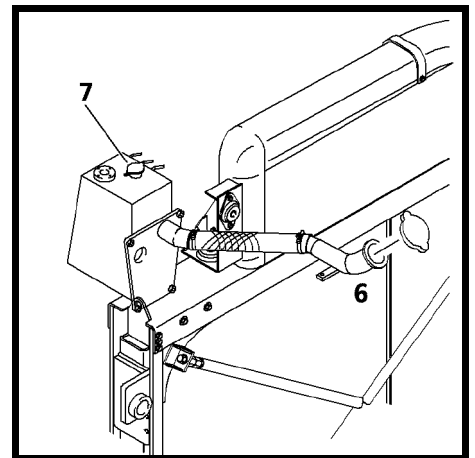

Fig. 3
When the coolant is cold, the coolant level should reach the top of the tube under the filler cap (fig. 3, pos. 6).